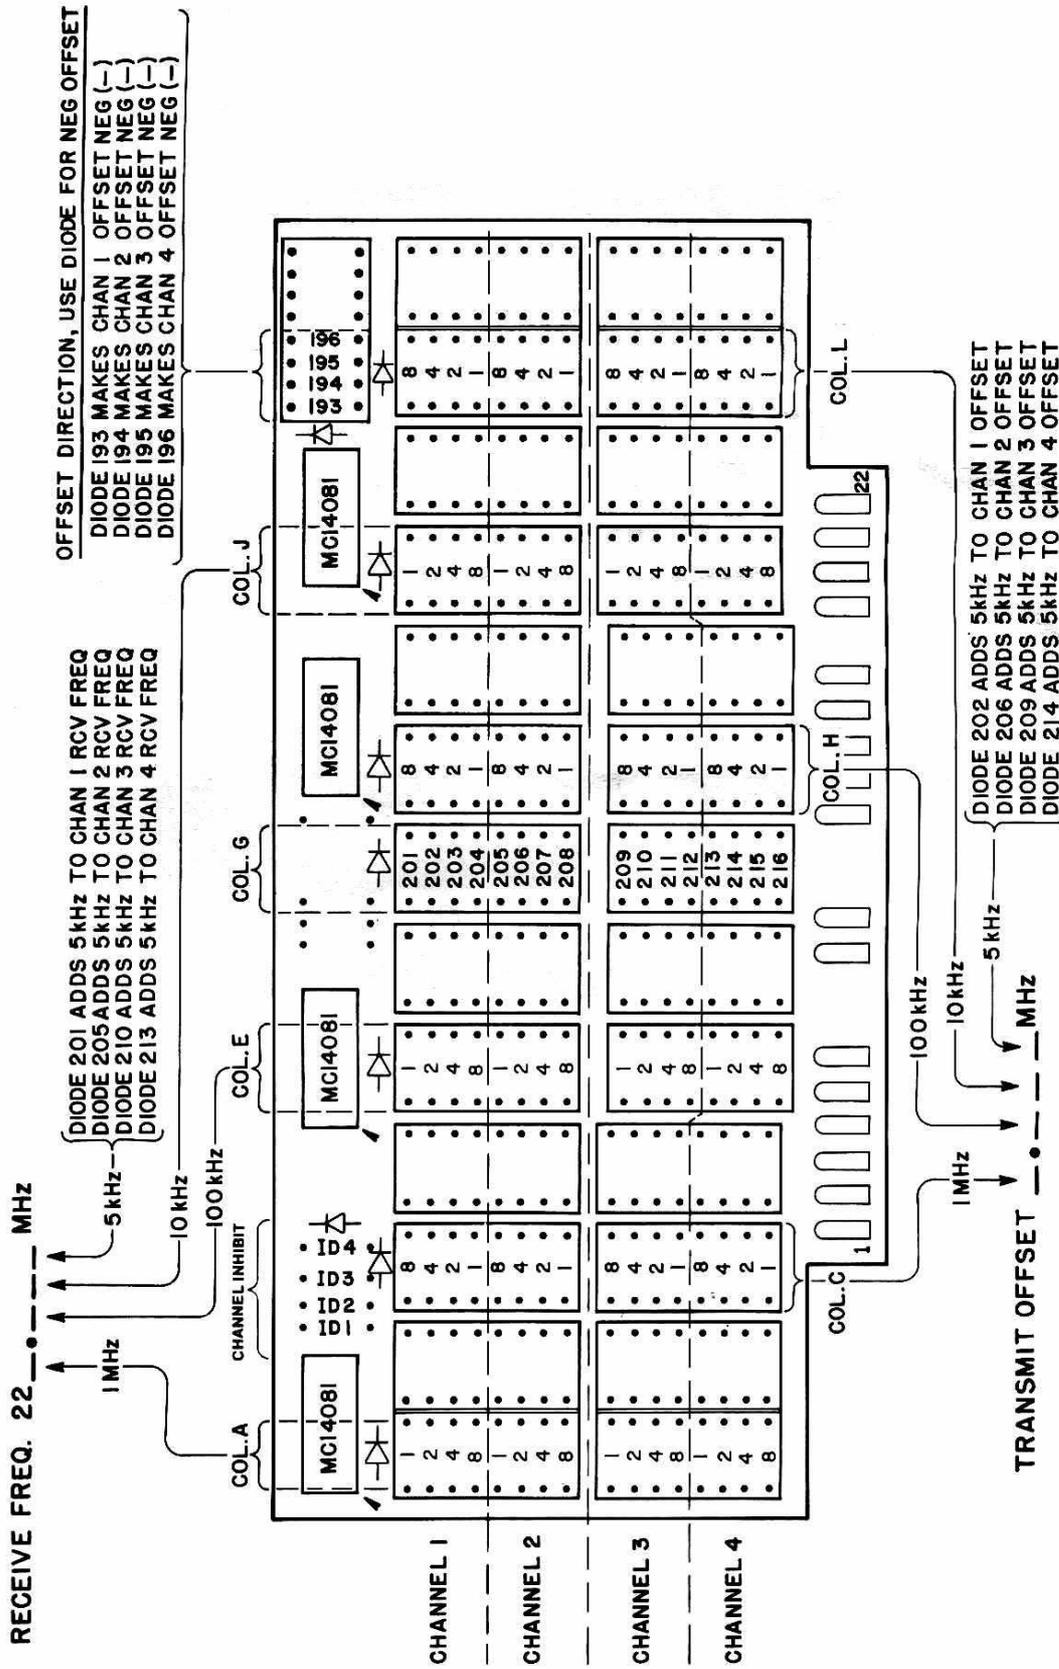

Figure 3-6. 220 Programming
Remove the 220/440 PROGRAM BOARD using the board puller (located in the speaker compartment), and position the board with the edge connector at the bottom as shown in figure 3-6. There are 13 columns of integrated circuit (IC) sockets labeled A through M. Each column is made of two IC sockets and each socket will accommodate eight diodes. The top four rows of each column are used to program Channel 1 for both the 220 MHz and 440 MHz bands. The BAND switch programs 220 megahertz into the synthesizer in the "220" position. It is necessary only to program the remainder of the desired receive frequencies for Channel 1 and the Channel 1 transmit offset frequency. Program the units megahertz value of receive frequency into column A, using the required combination of (1), (2), (4), and (8) diodes. The value programmed is the sum of the diode values, for example, 6 megahertz is the sum of a (2) and (4) diode. The 100 kilohertz value is similarly programmed into column E, and the 10 kilohertz value is programmed into column J. If a 5 kilohertz value is desired, use only a single diode in column G. A diode in position 201 adds 5 kHz to the receive frequency of Channel 1. A single diode in position 205, 210, or 213 adds 5 kHz to the receive frequency of Channel 2, 3 or 4 respectively. Refer to figure 3-6 for the exact location of positions 201, 205, 210, and 213 in column G.
To program the transmit offset frequency, again refer to figure 3-6 and note that columns C, H, and L are used. The megahertz value of transmit offset is programmed into column C using the required combination of (1), (2), (4), and (8) diodes. Program column H for the 100 kHz value and column L for the 10 kHz value of transmit offset. Again, a single diode is used for programming a 5 kHz value of offset. Diode position 202 adds 5 kHz to the transmit offset frequency for Channel 1. Diode positions 206, 209, and 214 add 5 kHz to Channels 2, 3, and 4 respectively.
Figure 3-6 shows a diode symbol above or near all columns used for programming the 220 MHz band. Reversal of a diode will be the same as using no diode at all, and a "zero" will be entered for that position. Incorrect diode direction will result in an erroneous receive *and* transmit frequency.